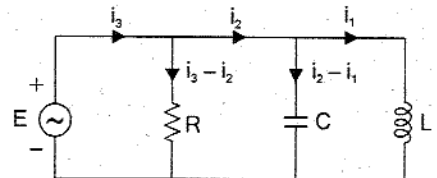

Fig E1.6
- E1.6 In an electrical circuit the elements resistance, capacitance and inductance are connected in parallel across the voltage source E as shown in fig E1.6, Draw (a) Translation mechanical analogous system (b) Rotational mechanical analogous system.